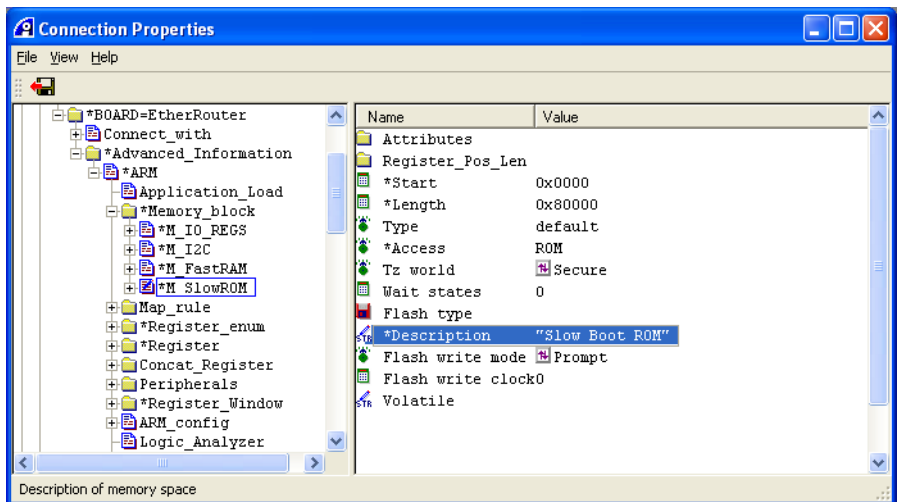

Figure 5-18 M_SlowROM memory block
8. Change the settings for the M_SlowROM memory block, shown in Figure 5-18: